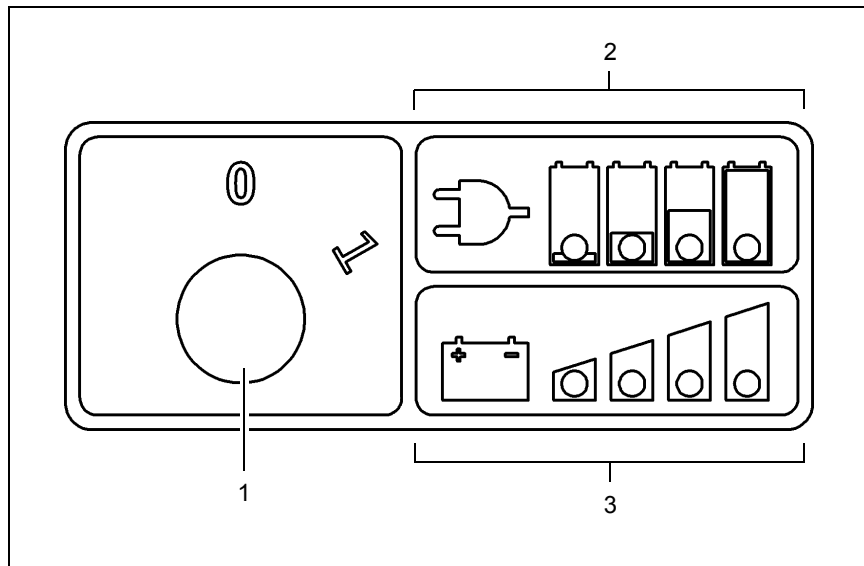

Fig. 10
Key switch (Fig. 10/1)
Charge control indicator (Fig. 10/2)
Battery discharge status (Fig. 10/3)
1. Set the key switch (Fig. 10/1) to Position 1.